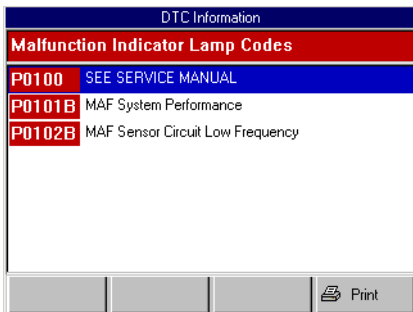

Figure 7.5: DTC Information Screen
- If the DTC Information screen appears (Figure 7.5), go to Step 6.
- If the DTC Information screen appears (Figure 7.5), go to step 6.